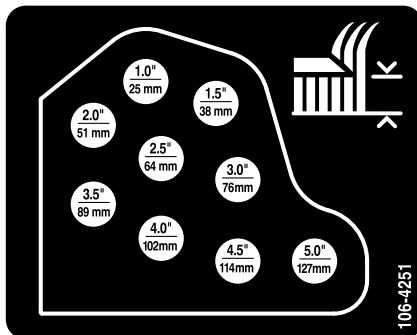

Figure 18
10. Mount the height-of-cut chains to the desired height-of-cut hole with the clevis pin and hairpin cotter (Figure 18).